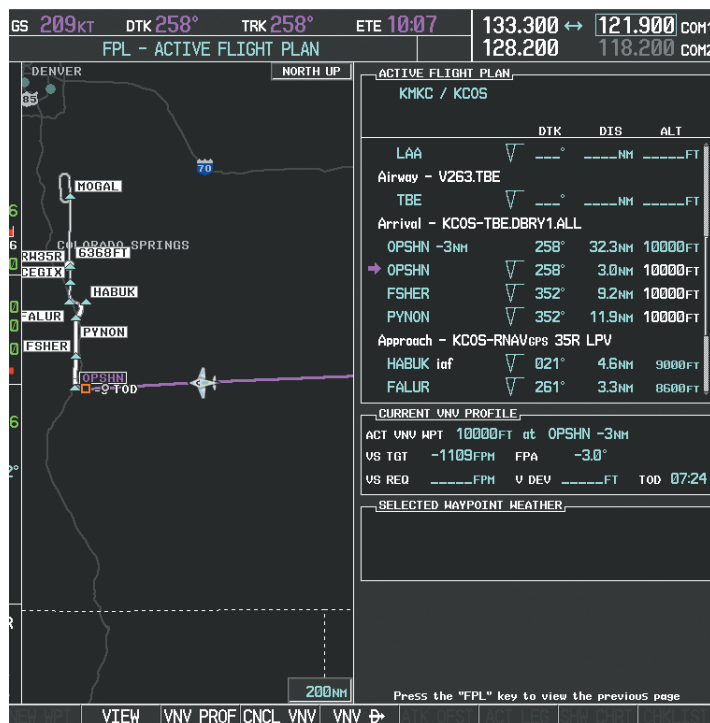

Figure 5-138 Adjusting the Descent
- a) Press the **VNV PROF** Softkey to place the cursor in the target vertical speed field (VS TGT) as shown in Figure 5-138.